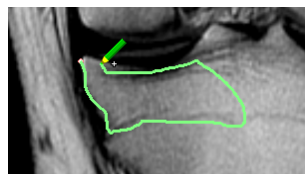

Figure 185 – Drawing contour with Freehand tool
4. Press and hold the left mouse button and draw a contour (see Figure 185).